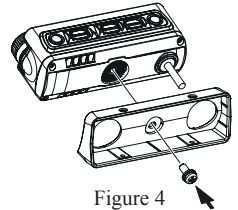

Figure 4
4. Attach the supplied Angle Sub Panel to the Front Panel, using the previously removed screw (Figure 4).